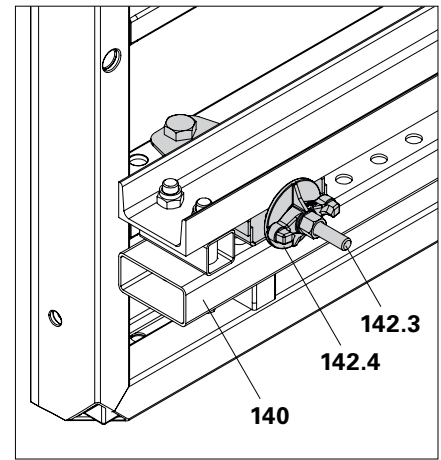

Fig. C1.04a
- The Formwork Waler 150 CB (**110**) is attached to the Clamp Adapter MX / TR-SRU (**142**) as standard by means of the Tie Rod DW 15 (**142.3**) and Wingnut Counterplate DW 15 (**142.4**). (Fig. C1.04a)
4. Brace the Formwork Waler 150 CB (**110**) on the formwork using Tie Rod DW 15 (**142.3**) and Wingnut Counterplate DW 15 (**142.4**). (Fig. C1.04a)